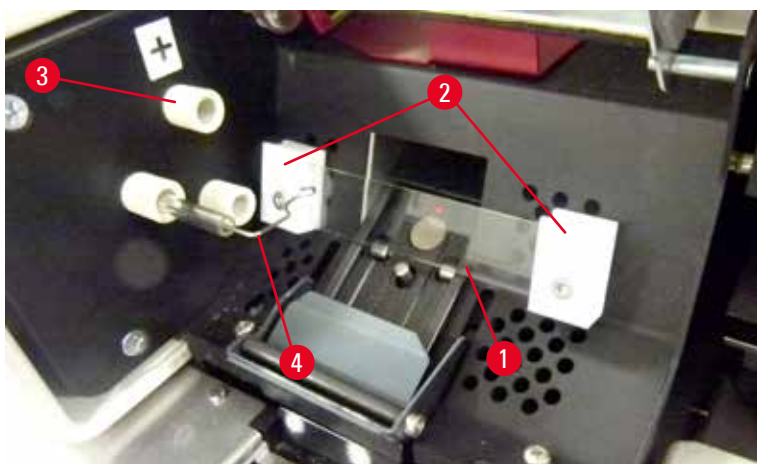

Fig. 17
5. Make sure the contact spring (→ "Fig. 16-2")/(→ "Fig. 17-4") is removed from the ignition wire (→ "Fig. 18-1") of the bulb (See also (→ "Fig. 17").